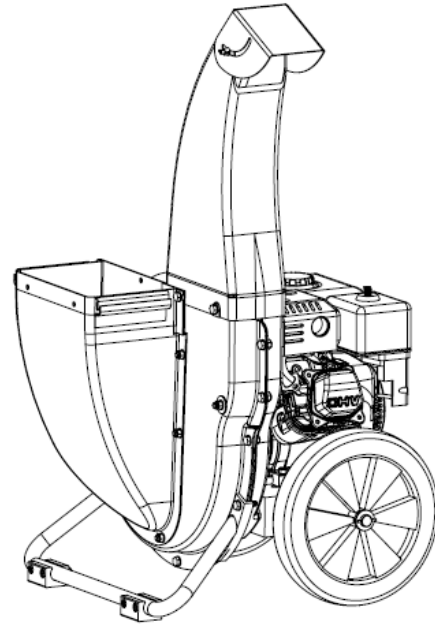

Figure 3
8. Attaching the chipper discharge chute (Figure 3)